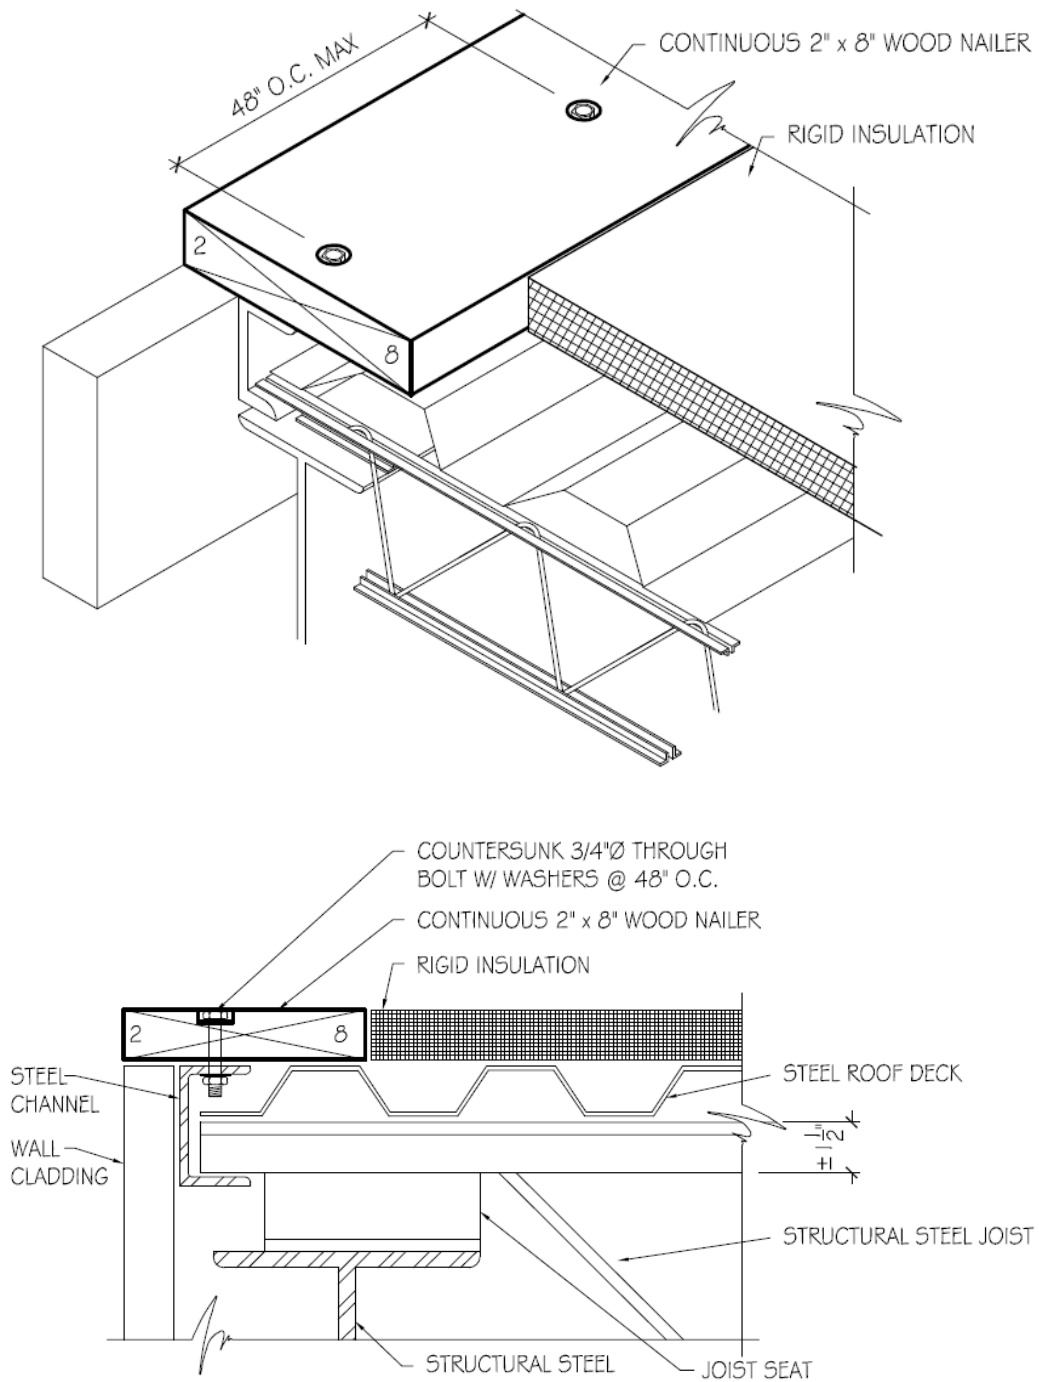

FIGURE 4 - ROOF EDGE WOOD BLOCKING - THROUGH BOLT ANCHORS
- If the perimeter nailer is to be secured to a steel angle, anchor bolts must be positioned at 48 inch centers as show in **Figure 4**.